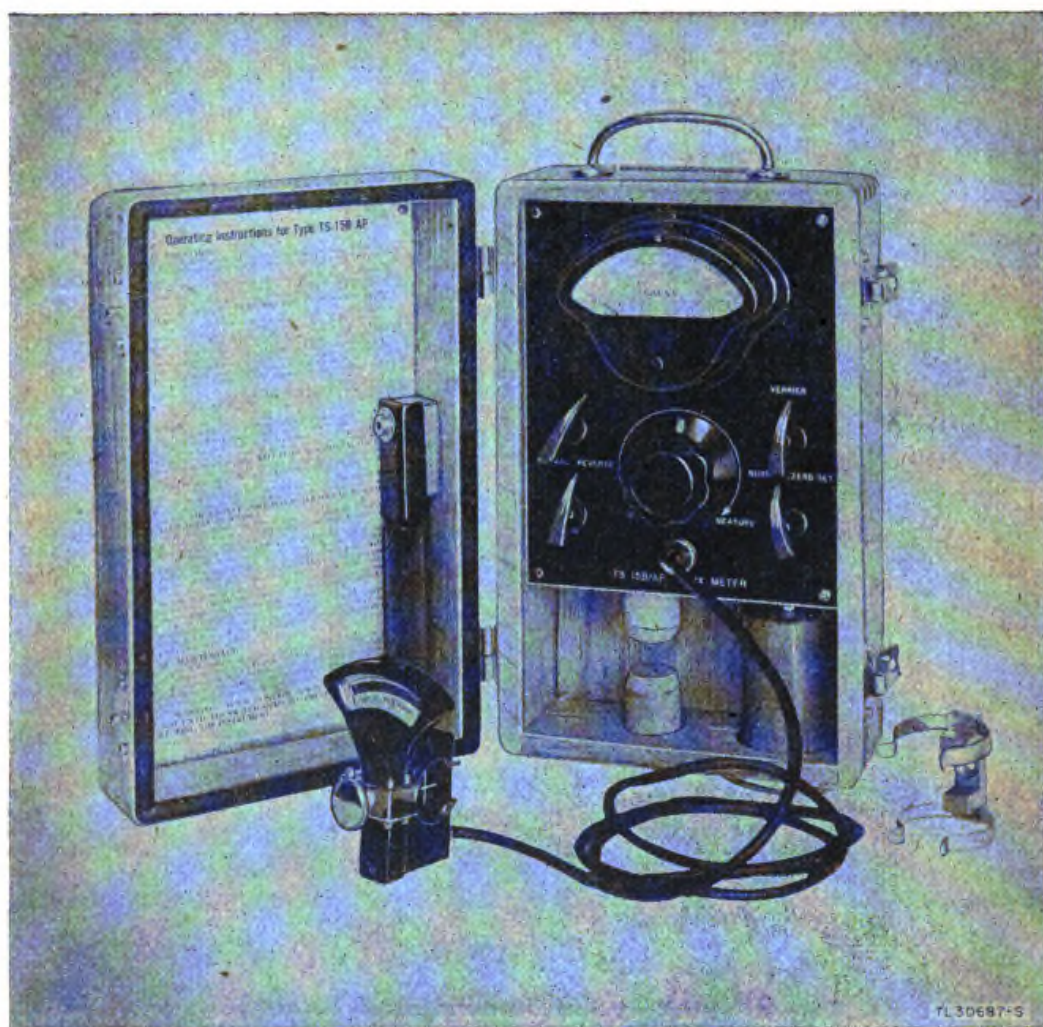

Figure 2. Fluxmeter TS-15B/AP.
4. FLUXMETER TS-15B/AP (fig. 2).